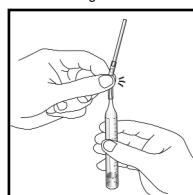

Figure 3
3. Snap the tip of the ampoule at the black snap ring (fig. 3).